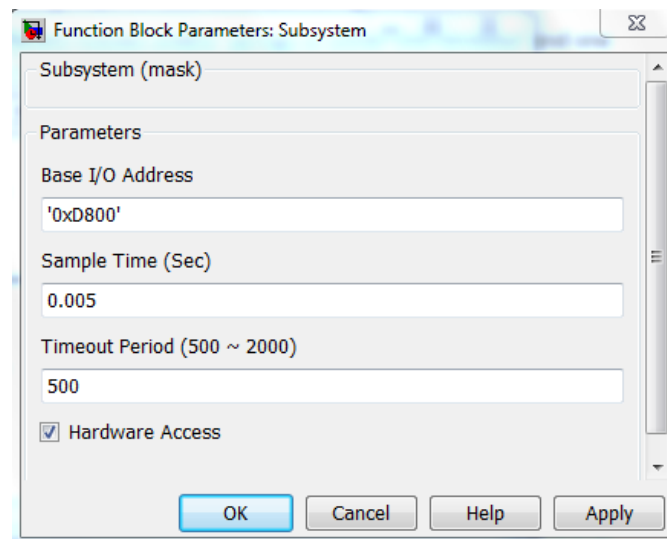

Figure 2: ECPDSP Reset Function Block Parameters
- Verify that the **Base I/O Address** is correct for your work station by double clicking on the blue ECPDSP Reset box, and checking the parameters in the window that opens (see Figure 2). Since all of the computers in the room are Dell computers, the **Base I/O Address** should be **'0xD800'**. Also change the **Sample Time (Sec)** to **0.005**. Click Apply→OK and make sure that you save the file if you had to change the address.